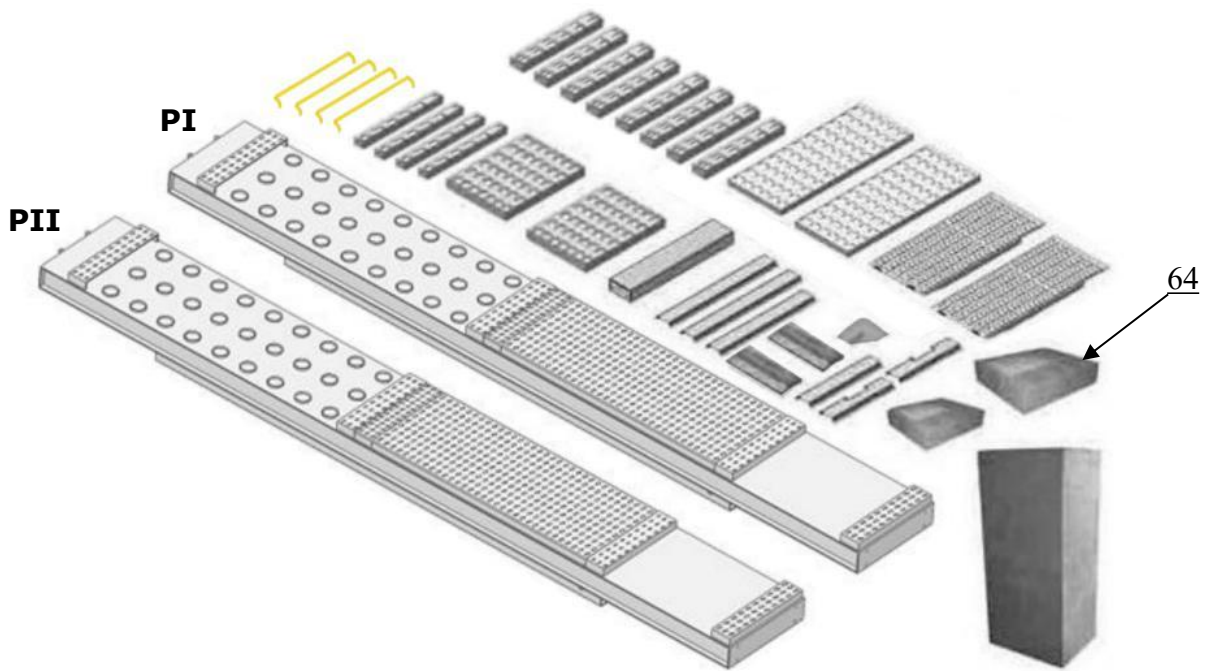

Fig. 8
2.1 Parts for lift on surface installation (See Fig.8)